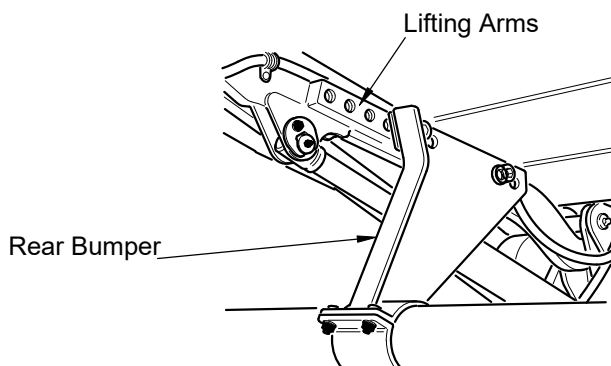

Figure 23: Bolted Bumper Bar
1. **Bolt** the Bumper Bar on the platform lifting arms using 4x M16 screws for each plate (Figure 23).